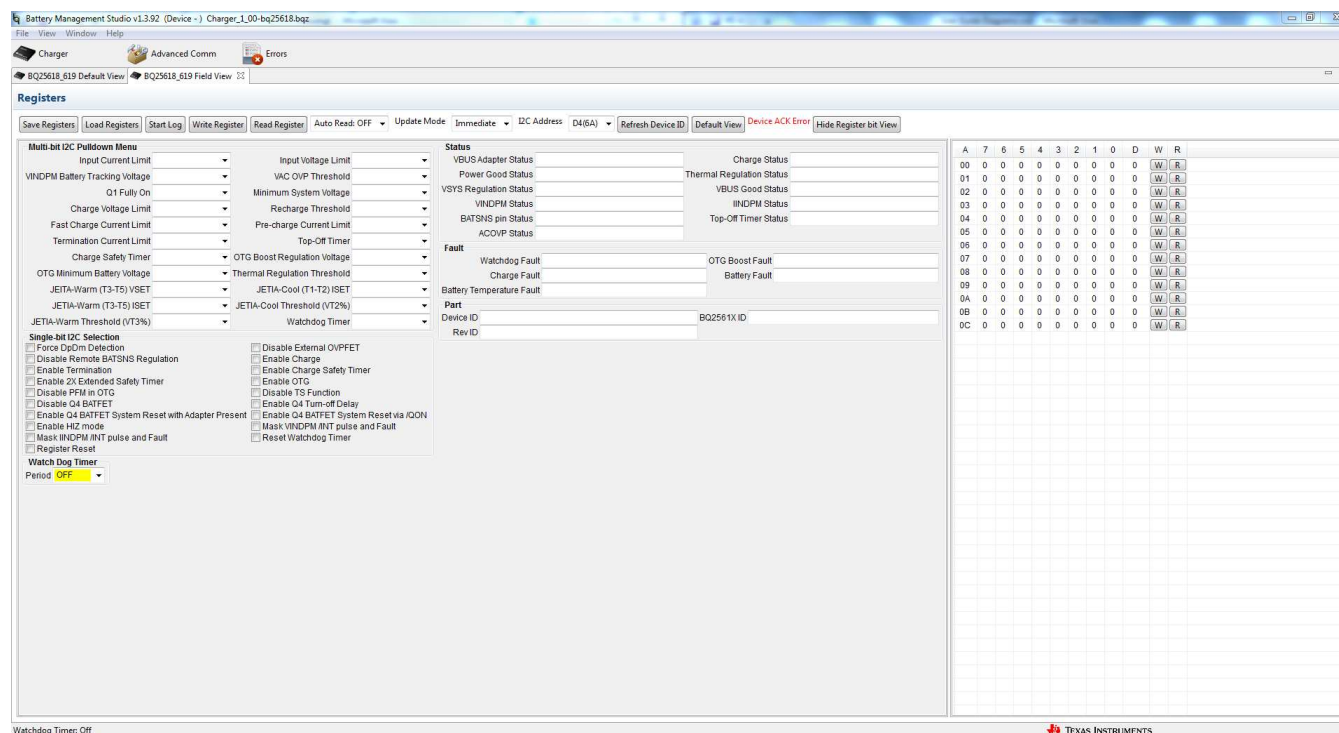

Figure 4. Main Window of BQ2561X EVM Software
3. Choose **Field View**, on the window that appears, and the main window of the BQ2561X EVM software will appear, as shown in Figure 4.
2. In the Field View (see Figure 4), make the following changes as necessary: